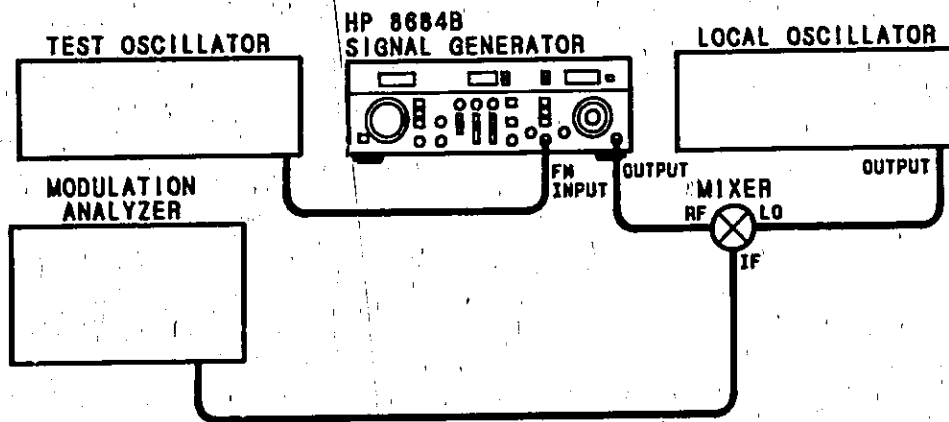

Figure 4-9. Incidental AM Test Setup
5. Connect Signal Generator, local oscillator, mixer, and modulation analyzer as shown in Figure 4-9.